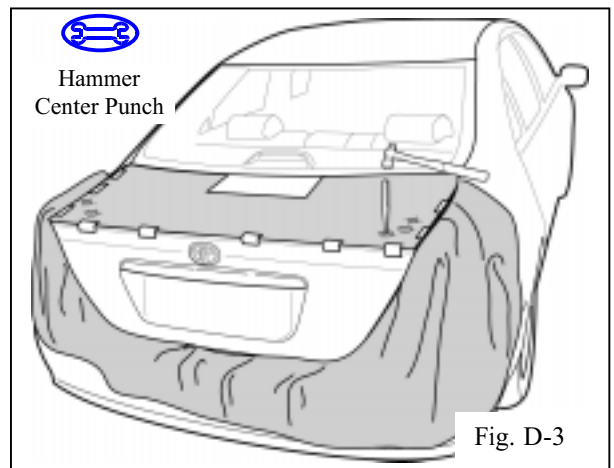

Fig. D-3
- 6. Using a center punch, lightly center punch the five (5) hole locations. (Fig. D-3)